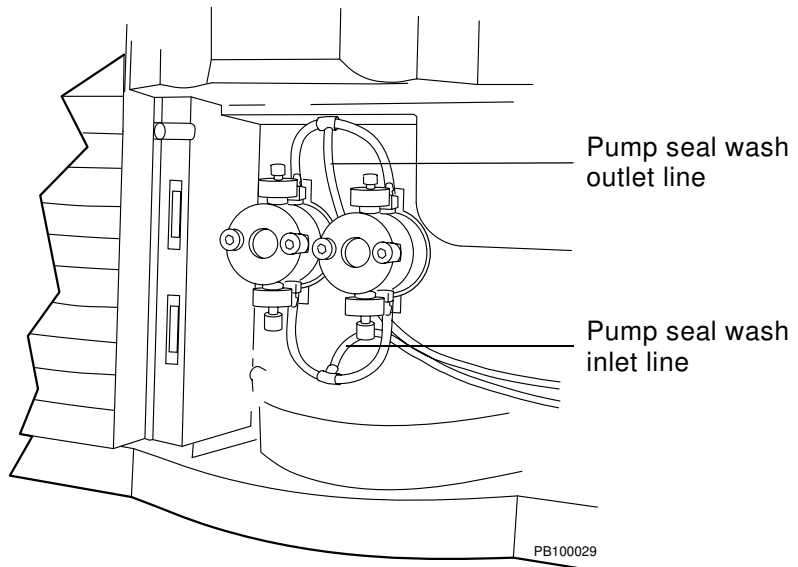

Figure 3-17 Pump Seal Wash Lines
1. Locate the two pump seal wash lines as they emerge from the pump heads in the lower right panel of the workstation. Pump seal wash lines are urethane tubing, and are not bundled together with the buffer/solvent lines (Figure 3-17).